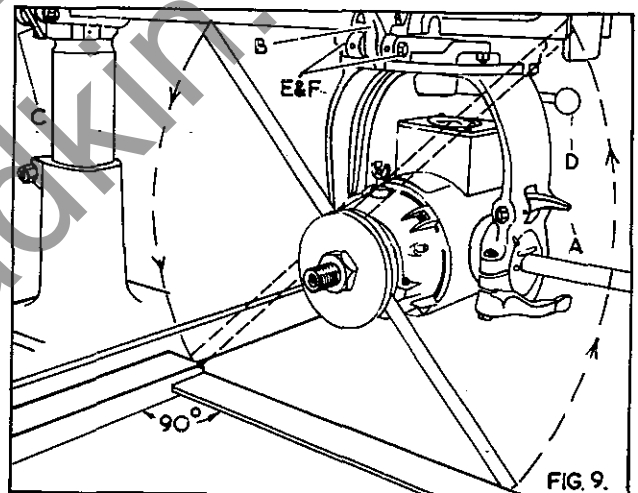
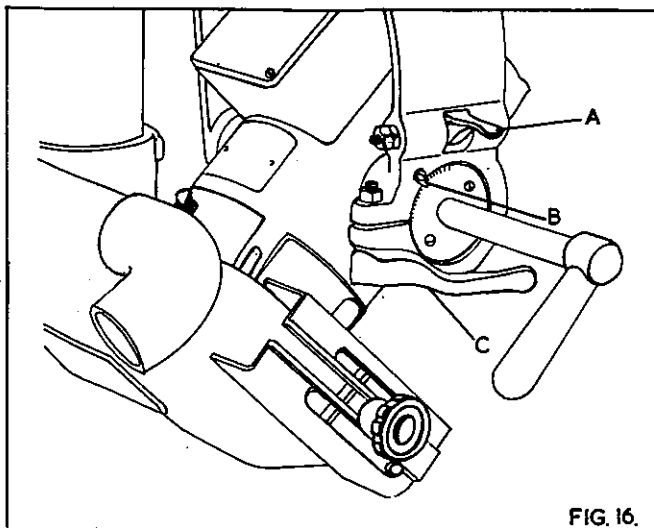

FIG. 9.
FIG. 16.
2. Ensure the motor locating latch "A" in Fig. 9, the stirrup locating latch "B" and the carriage locking screw "C" in Fig. 16 is securely locked.
4. Lift arm locating latch "C" in Fig. 9 and swing arm to extreme ends of the table checking that clearance between rod and table remains constant.
To check this alignment place a steel rule or some other similar straight edge between the saw flanges as shown in Fig. 9 and a steel square against the fence. Rotate the steel rule from front to rear. If adjustment is necessary loosen stirrup locking handle "D", and disengage the stirrup locating latch "B", set correctly, then relock in position with lever "D". Adjust the aerotight nuts "E" and hexagon locknuts "F" until the latch "B" locates accurately in the slot in the stirrup.
The motor swivels within the stirrup through 90° . The principle angles are located by a tapered latch "A" in Fig. 16. The angle of cant is clearly shown on a graduated scale by the pointer "B".